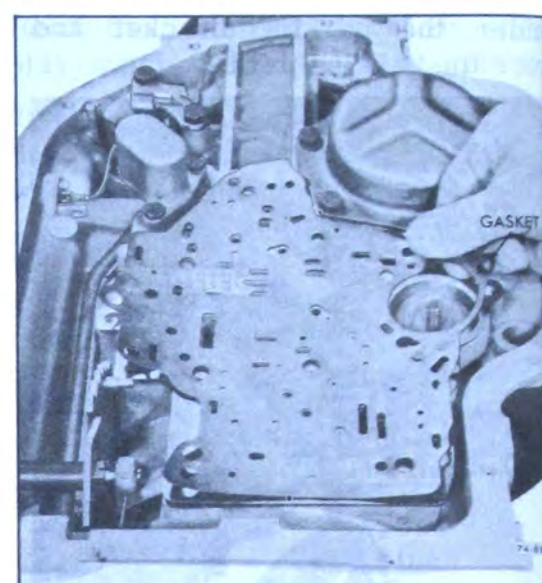

Figure 74-781
1. Install valve body to spacer plate gasket. See Figure 74-781.